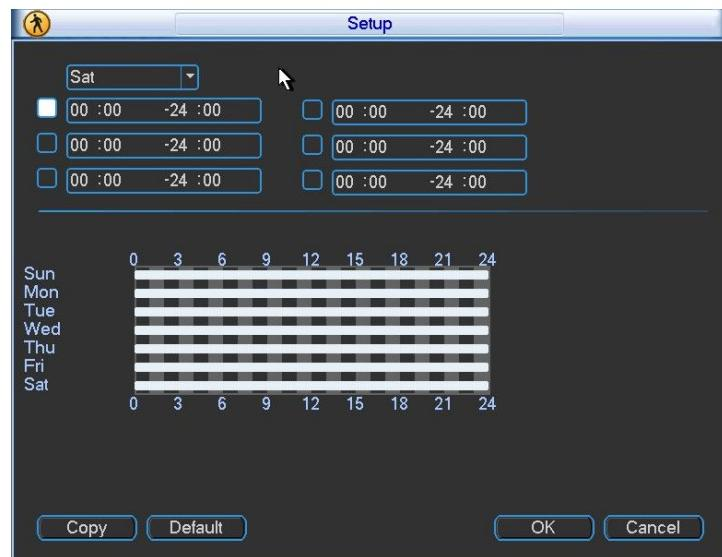

Figure 4-26
- Period: Click set button, you can see an interface is shown as in Figure 4-26. Here you can set motion detect period. System only enables motion detect operation in the specified periods. It is not for video loss or the camera masking. Please select Sunday to Saturday from the dropdown list. You can see there are six periods for you to set. Please note you need to check the box before the period to enable the period setup valid. In Figure 4-26, select work day or non-work day from the drop down list, and then click the Set button, you can set your own business day and non-business day setup. See Figure 4-27. You can set Monday to Friday as the working day and Saturday and Sunday as non-business day. Click Save button to go back to previous interface.